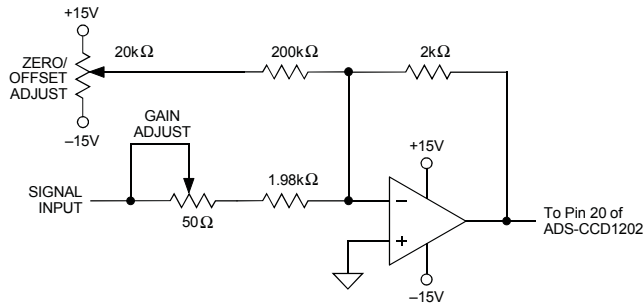

Figure 2. ADS-CCD1202 Calibration Circuit
Bypass all power supplies, as well as the REFERENCE OUTPUT (pin 21), to ground with 4.7µF tantalum capacitors in parallel with 0.1µF ceramic capacitors. Locate the bypass capacitors as close to the unit as possible. If the user-installed offset and gain adjusting circuit shown in Figure 2 is used, also locate it as close to the ADS-CCD1202 as possible.
2. ADS-CCD1202 achieves its specified accuracies without external calibration. If required, the device's small initial offset and gain errors can be reduced to zero using the input circuit of Figure 2. When using this circuit, or any similar offset and gain-calibration hardware, make adjustments following warmup. To avoid interaction, always adjust offset before gain.
CALIBRATION PROCEDURE (Refer to Figures 2 and 3)
Any offset and/or gain calibration procedures should not be implemented until devices are fully warmed up. To avoid interaction, offset must be adjusted before gain. The ranges of adjustment for the circuit of Figure 2 are guaranteed to compensate for the ADS-CCD1202's initial accuracy errors and may not be able to compensate for additional system errors.
All fixed resistors in Figure 2 should be metal-film types, and multi-turn potentiometers should have TCR's of 100ppm/°C or less to minimize drift with temperature. In many applications, the CCD will require an offset-adjust (black balance) circuit near its output and also a gain stage, presumably with adjust capabilities, to match the output voltage of the CCD to the input range of the A/D. If one is performing a "system I/O calibration" (from light in to digital out), these circuits can be used to compensate for the relatively small initial offset and gain errors of the A/D. This would eliminate the need for the circuit shown in Figure 2.